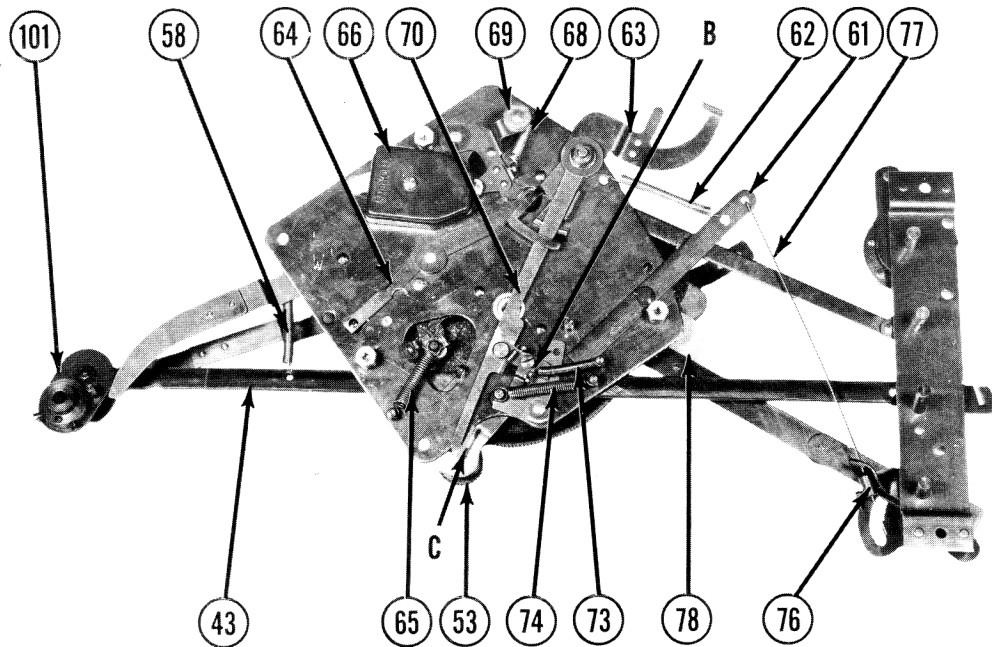

Figure 3
As the tone arm moves into the eccentric groove of a record, the stud (A) of the tone arm control lever (21) moves against the trip lever actuating fork (63), which in turn, carries the trip lever (70) inward toward the turntable hub. Trip lever (70) is fed inward by the friction provided by its own weight resting on the trip lever actuating fork (63). As the trip lever (70) moves inward it latches at point (B) (Fig. 3) with the clutch stop lever. The drive gear striker pad (126), turning with drive gear (128), strikes the trip lever (70) at point (C) (Fig. 3) causing the trip lever to move away from the turntable hub. Since the trip lever (70) and the clutch stop lever are latched together, the outward travel of trip lever (70) disengages the clutch lever